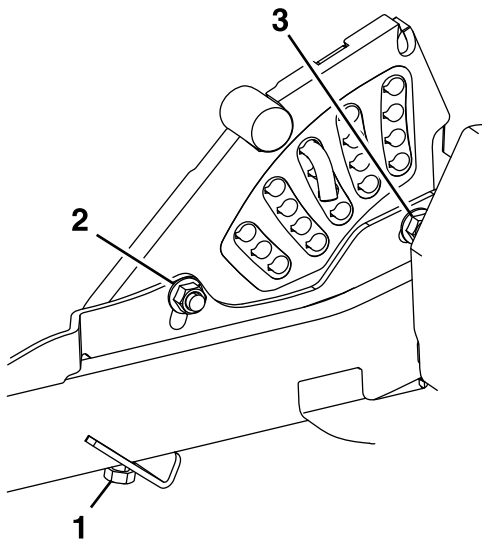

Figure 76
7. If the deck is too low, tighten the single-point adjustment bolt by rotating it clockwise (Figure 76).